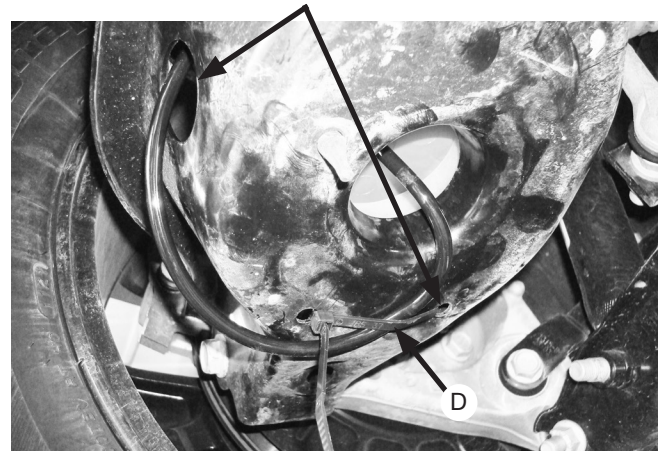

Fig. 6
6. Use a zip tie (D) and the two holes in the lower control arm (Fig. 6) to secure the air line. Leave a little slack in the line. Route the air line up through the large hole into the center of the lower control arm.